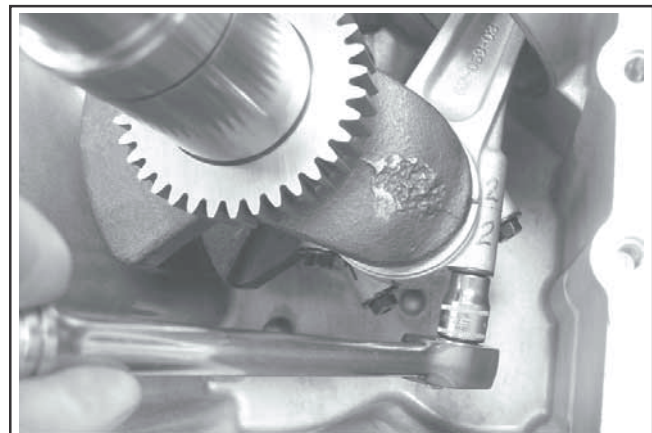

Figure 10-20. Torquing Connecting Rod End Cap Screws.
5. Install the inner rod cap to the connecting rod using the two hex flange screws. Torque the screws in increments to **11.3 N·m (100 in. lb.)**. Illustrated instructions are provided in the service rod package. See Figure 10-20.